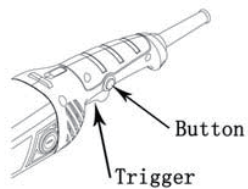

Figure 6
- 2)Start the tool by pressing the button of on/off switch, then pressing the trigger of on/off switch down slightly.(See figure 6)